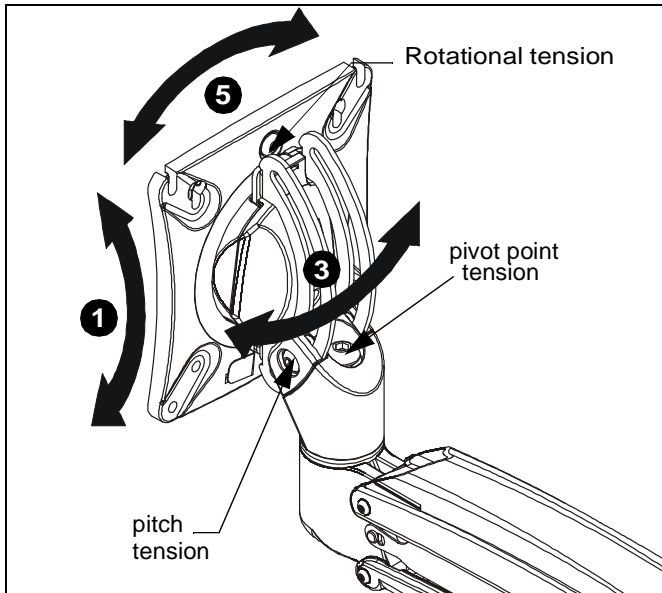

Figure 7
1. Adjust pitch to desired tilt position. (See Figure 7)
2. Adjust pitch tension screw to change the adjustment tension. (See Figure 7)
3. Adjust pivot position as desired. (See Figure 7)
4. Use 3/16" hex key (K) to adjust pivot point tension screws to change pivot adjustment tension. (See Figure 7)
5. The monitor may be adjusted 90 degrees in either direction in order to provide a portrait view of the monitor. (See Figure 7)
6. Use 3/16" hex key (K) to adjust rotational adjustment screw to adjust rotational tension. (See Figure 7)